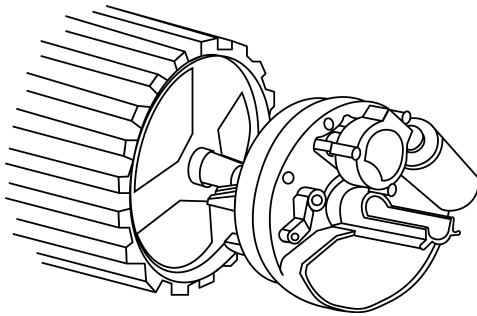
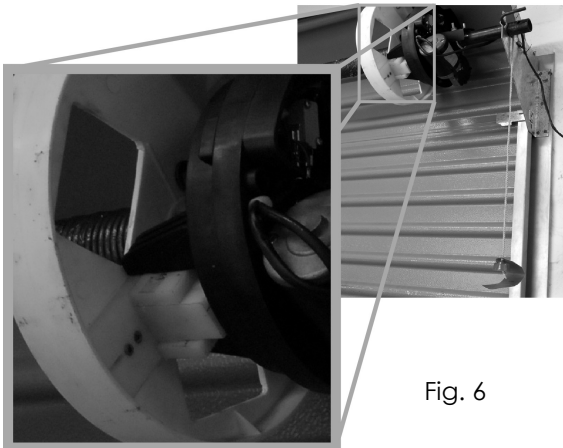

Fig. 4
Fig. 6
- 2.6 Raise the door carefully, insert the opener into the door axle and ensure the two opener forks hold the door drum wheel support. Push the opener inside the door roll as deep as possible (Fig. 4). In cases where the drum spokes do not match the drive fork, fasten a block of wood or similar material to the drum that will hold firm when driven. (Fig 6). Use washers to prevent the fasteners tearing out of the drum wheel.